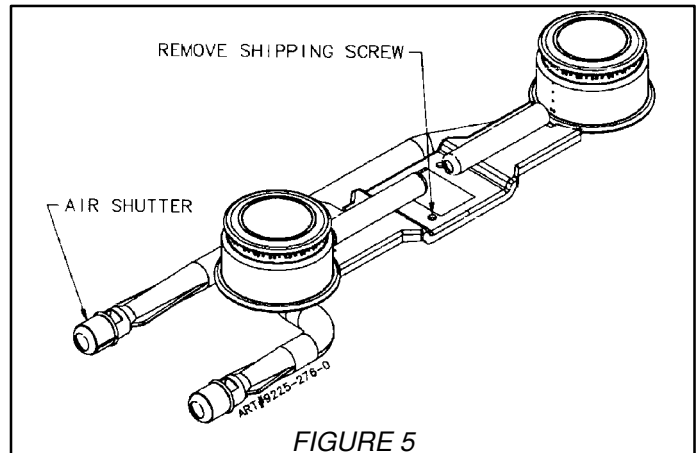

FIGURE 5
- i. Remove shipping screw from ALL top burners. (Conventional top burner models only). This is to hold the burners in place on the burner bracket for shipping purposes only. (See figure 5).